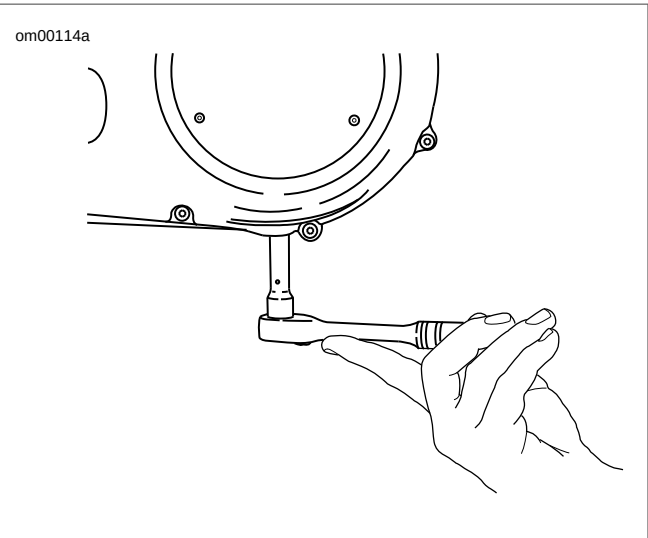

Figure 1-10. Removal/Installation of Chaincase Drain Plug
2. See Figure 1-10. Drain lubricant into suitable container.